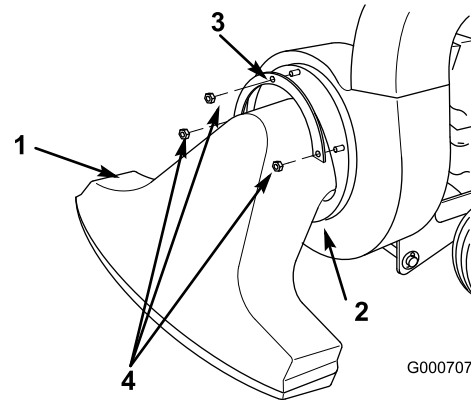

Figure 33
6. Remove the front snout (Figure 33).
7. Slip the bag off of the chute and remove the chute (Figure 33).